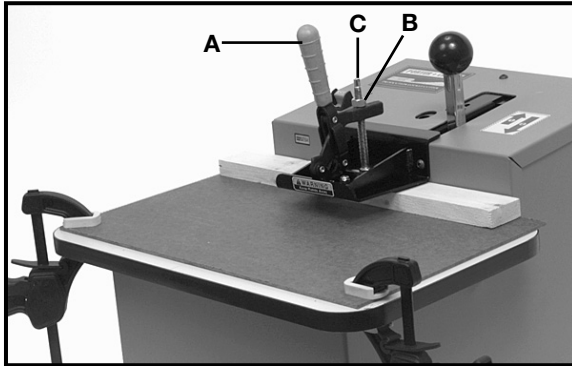

Fig. 18
IMPORTANT: When using thin material (between $\frac{1}{2}$ " and $\frac{5}{8}$ " thick), a shim is required. Make the shim from $\frac{1}{8}$ " thick material (plywood or hardboard). The shim should be approximately the same size as the table top. Firmly clamp the shim to the top of the table (see Fig. 18). Place the thin workpiece on top of the shim, clamp in place with the work clamp, and make pocket cut in normal fashion (a slot will be cut through the shim).
1. Place workpiece under open work clamp (see Fig. 18).
2. Close work clamp by pushing forward firmly on the lever (A) Fig. 18.
4. Loosen the jam nut (B) Fig. 18, by turning counterclockwise.
To loosen clamp, turn clamp screw assembly (C) Fig. 18, counterclockwise. To tighten clamp, turn clamp screw assembly (C) Fig. 18, clockwise.